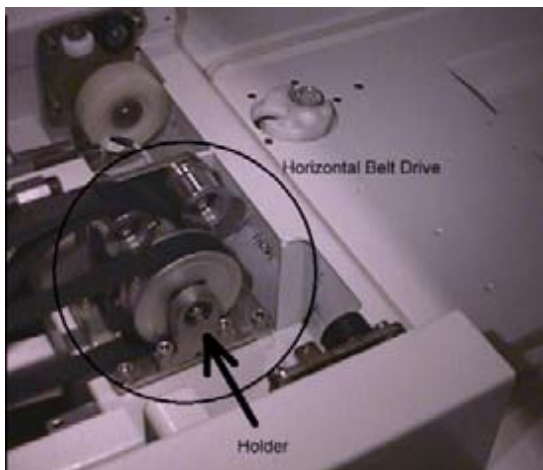

Fig. 32: Horizontal tooth belt
- Replace the horizontal belt drive \(Fig. 32 / p. 34\)